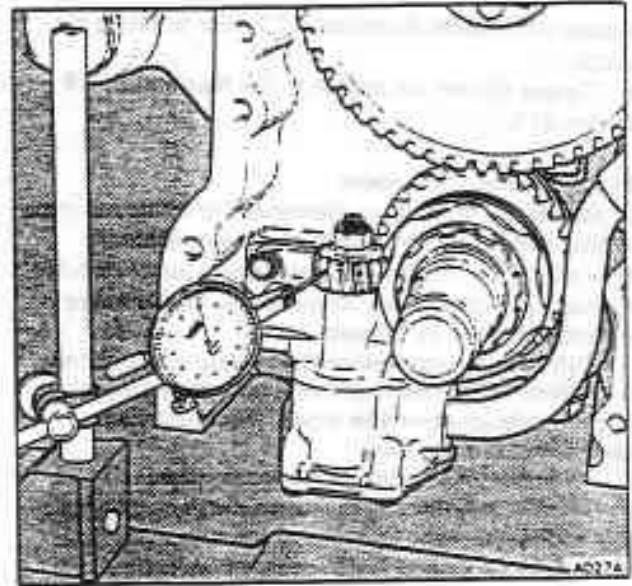

Fig. E10-6 Checking backlash of oil pump gears
5. Ensure that the backlash between the driving gear on the crankshaft and the gear on the pump is correct (refer to Section E3, Dimensional data and figure E10-6).